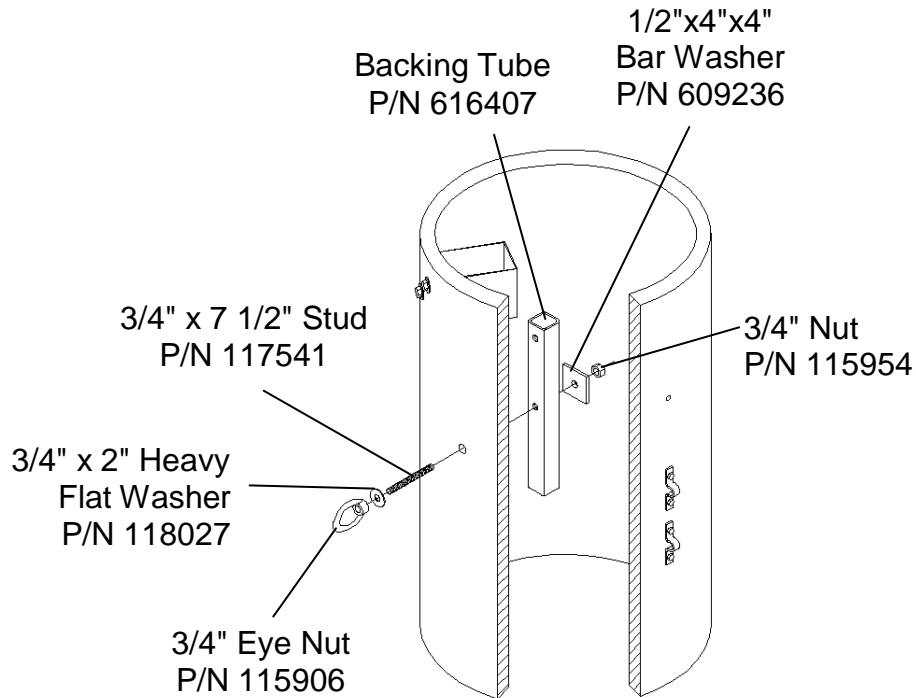

Figure 31
- 5) The REACT 350[®] System must be pulled out to its original length after each impact. The Pullout Assembly must be installed prior to this procedure and removed and stored when finished (see Figure 31).